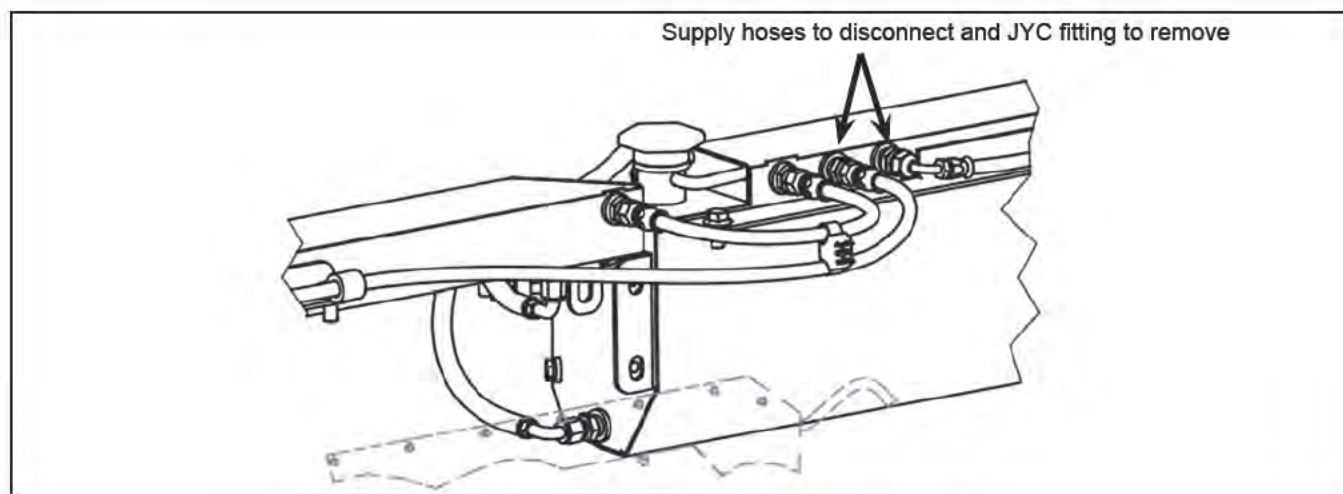

Figure 3 - Supply Hose to Disconnect and JYC Fitting to Remove
- 1.6. Disconnect the left and right coolant supply hoses from the surge tank and remove the JYC fitting adaptor. See Figure 3.